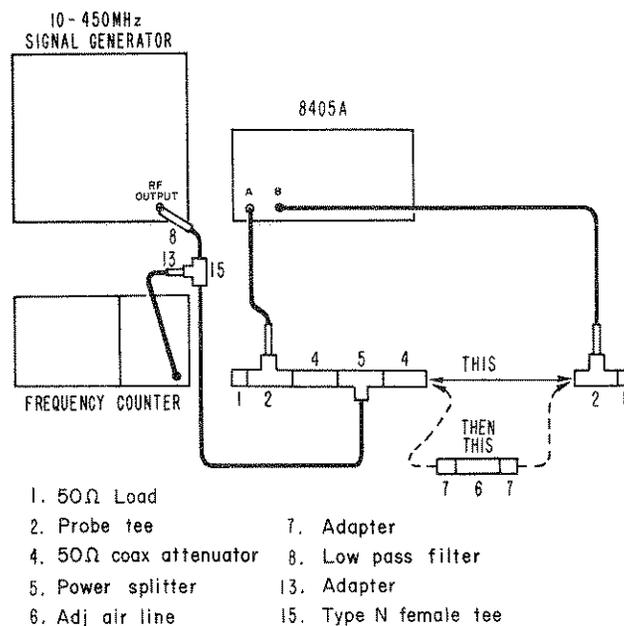

Figure 5. Phase Accuracy Check
NOTE: In general the phase shift caused by a change in frequency of the signal generator in Figure 5 is given by
1. Set up equipment as shown in Figure 5.